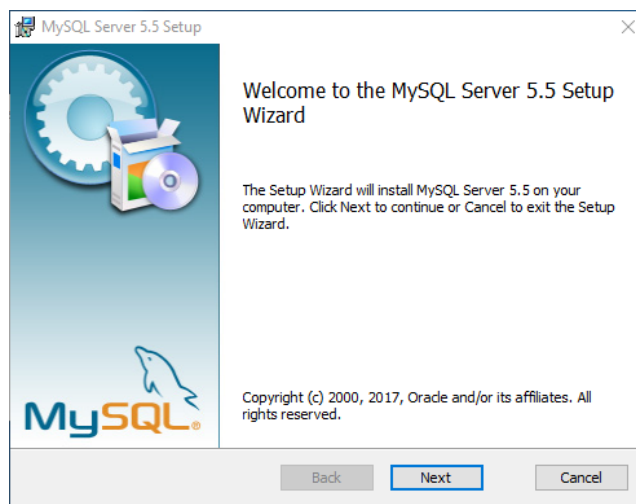

Figure A2
2. When the "Welcome to the MySQL" wizard appears, click "Next" (Figure A2)